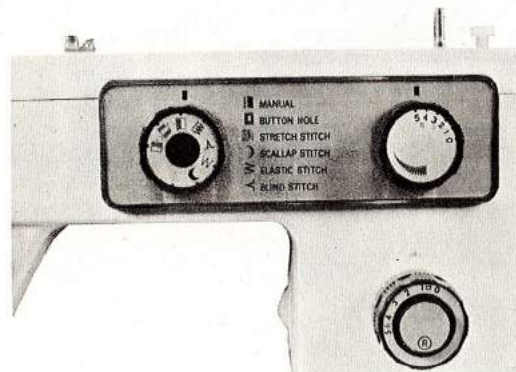

Fig. 23
7. Stop with the needle on the left side of the stitch (Step 1, Fig. 23).